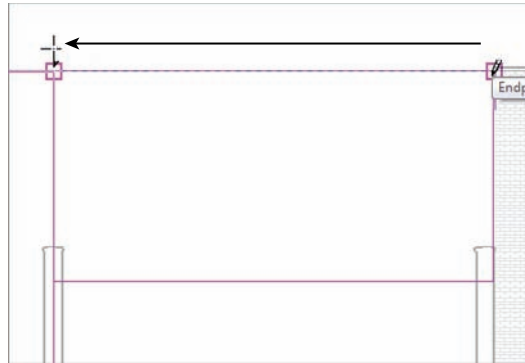

FIGURE 3.47 Drawing the line across the top
11. Continue drawing the line from right to left, across the top of the wall. Snap to the endpoint of the wall to the left, as shown in Figure 3.47.